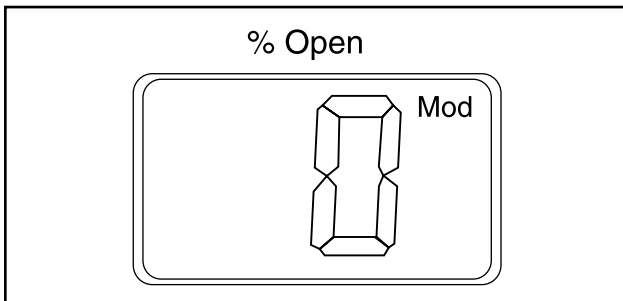

Figure 12 - ICAD Display Showing OD
- Normally the Opening Degree (OD) 0 - 100% of the ICM valve is displayed. No activation of push buttons for 20 seconds means that the display will always show OD (Figure 12).